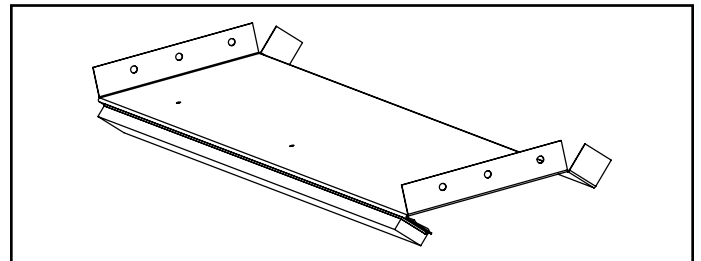

Figure 1.
1. Place top panel on flat surface as shown in Figure 1.